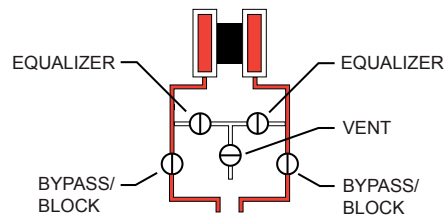

Figure 2.29 - Valve positions for closing the vent valve
1. Close the vent valve (Figure 2.29).